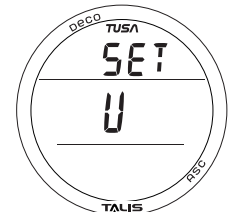

Fig. 36 - SET U (UTILITIES)
- > A & S (2 sec), while viewing the SET A screen - to access the SET U lead-in screen (Fig. 36).